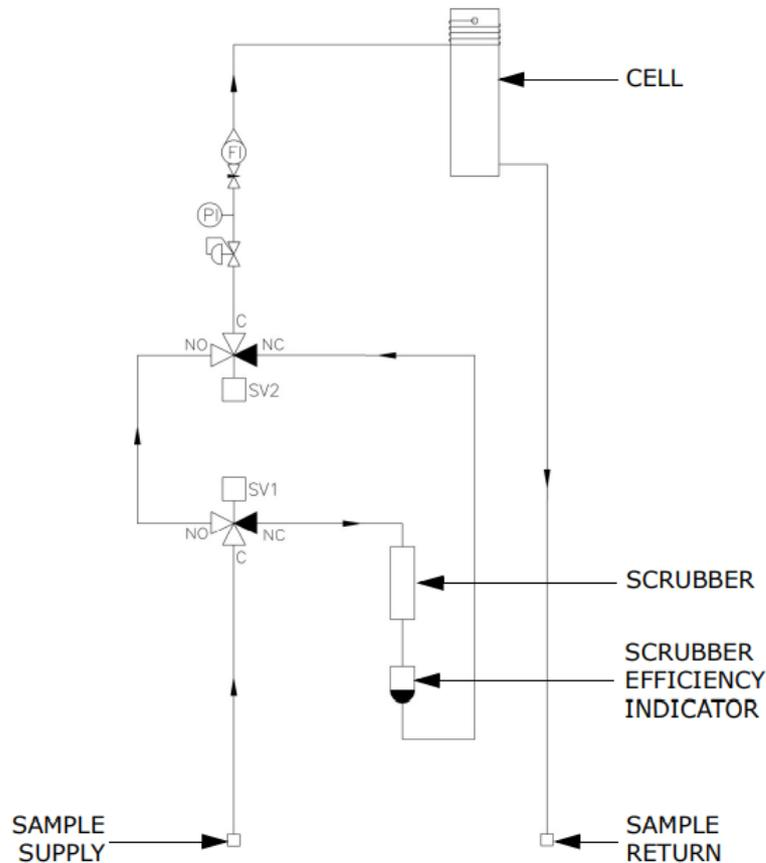
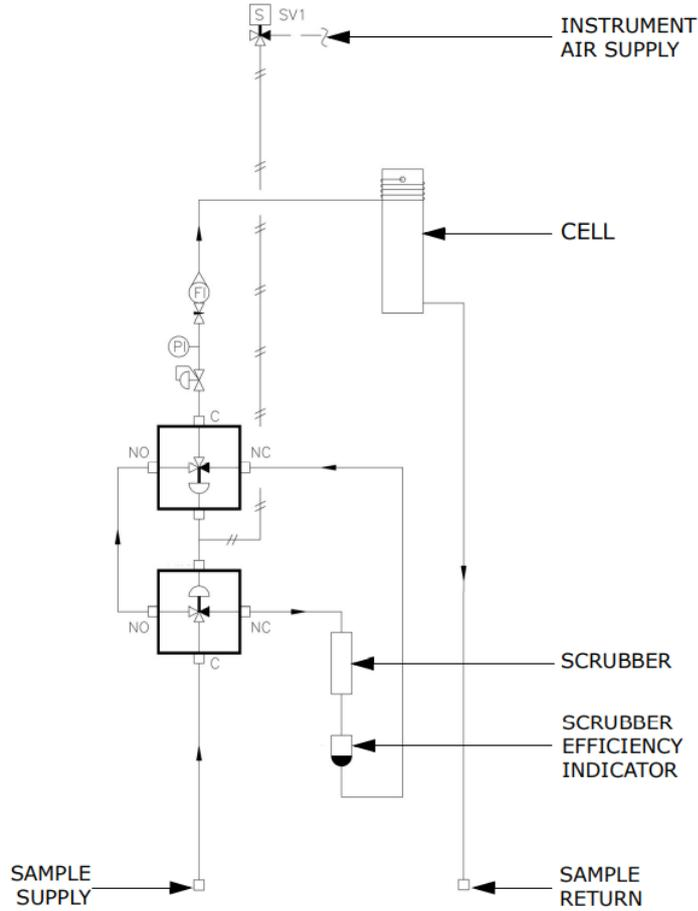
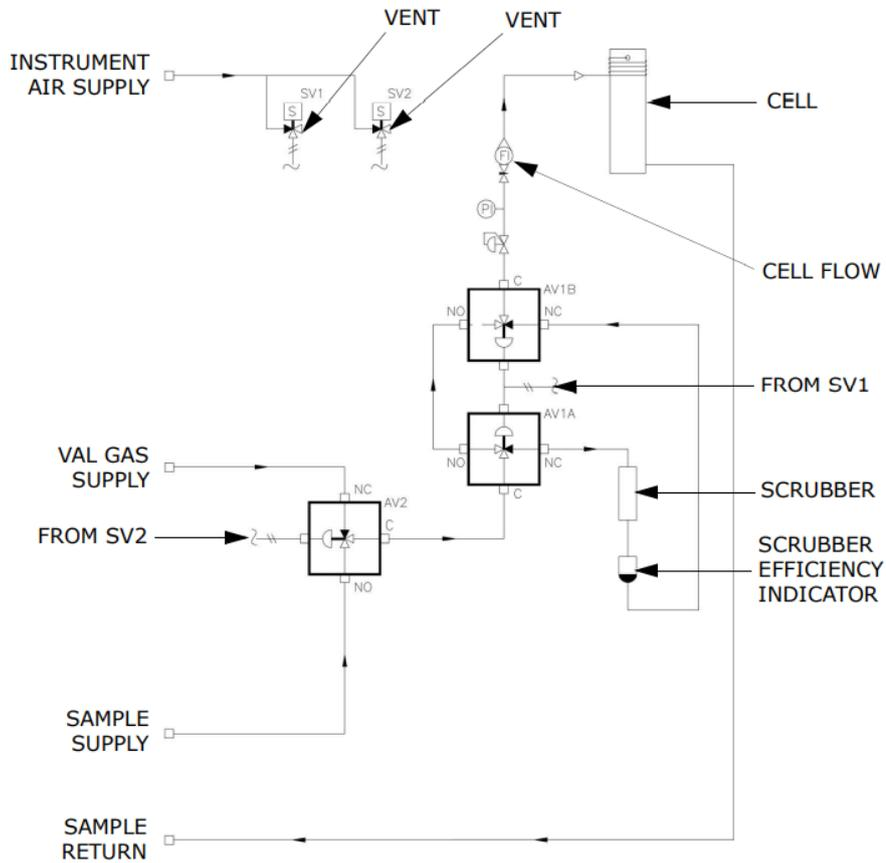
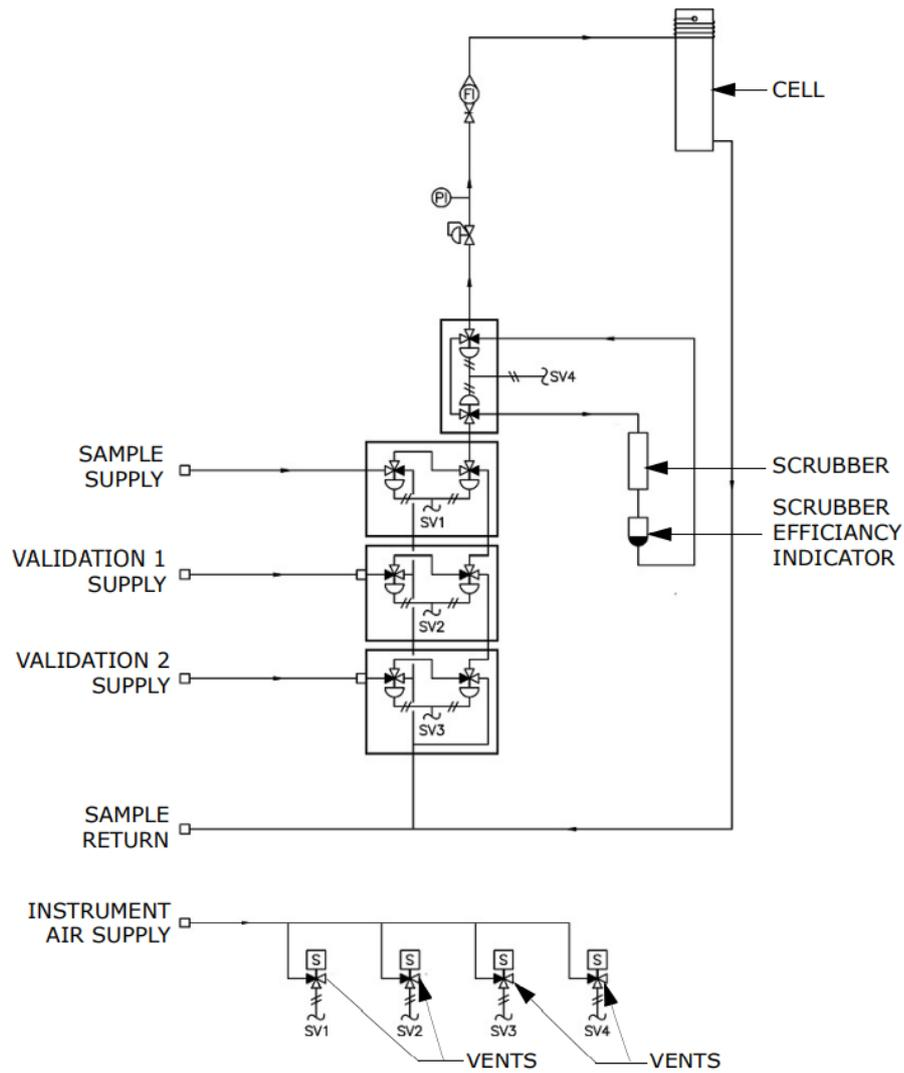

Figure 19. Basic differential system with two solenoid valves
Figure 20. Preferred basic differential system with one solenoid valve driving two pneumatic valves
Figure 21. Differential system with single autovalidation requiring two solenoid valves driving three pneumatic valves
Figure 22. Differential system with dual autovalidation requiring four solenoid valves driving eight pneumatic valves
Differential systems require solenoid valves to switch between process flow and flow that has been scrubbed of the analyte. The solenoids switch the flow either directly, as shown in Figure 19, or via instrument air driving pneumatic valves, as shown in Figure 20, Figure 21, and Figure 22. Refer to Differential TDLAS → .
Figure 19 is a schematic of a typical basic differential setup for installations where no instrument air is available to drive pneumatic valves. A more preferable setup is shown in Figure 20 where only one solenoid is required in favor of more reliable pneumatic valves. Systems set up for autovalidation with one gas require two solenoids, as shown in Figure 21, whereas autovalidation with two gases requires four solenoids, as shown in Figure 22.
- ▶ For valve configurations refer to Figure 19 through Figure 22.